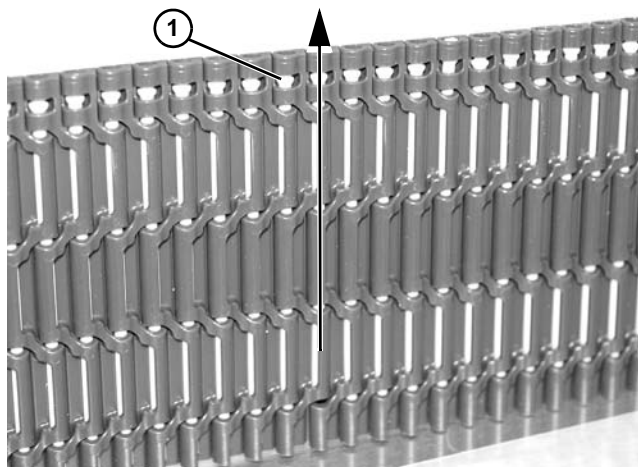

Figure 162
*Note that head of pin (**Figure 162, item 1**) should be removed in direction shown.*